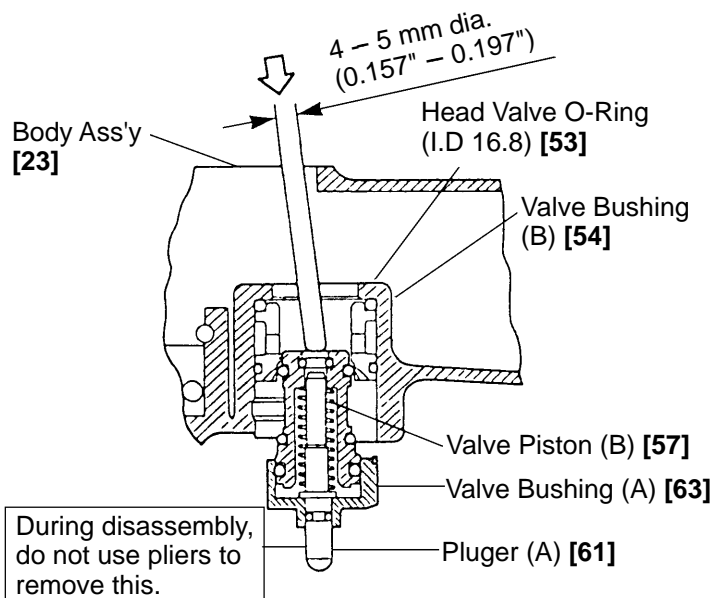

Fig. 7
- (1) Remove the Exhaust Cover [5] as shown in 2.2.(1).
- (2) Insert a 4 – 5 mm (0.15" – 0.197") dia. rod from the top of the Body Ass'y [23] as indicated in Fig. 7 and press the top surface of Valve Piston (B) [57]. The parts constituting the control valve can now be removed except for Valve Bushing (B) [54] and the Head Valve O-Ring (I.D 16.8) [53].